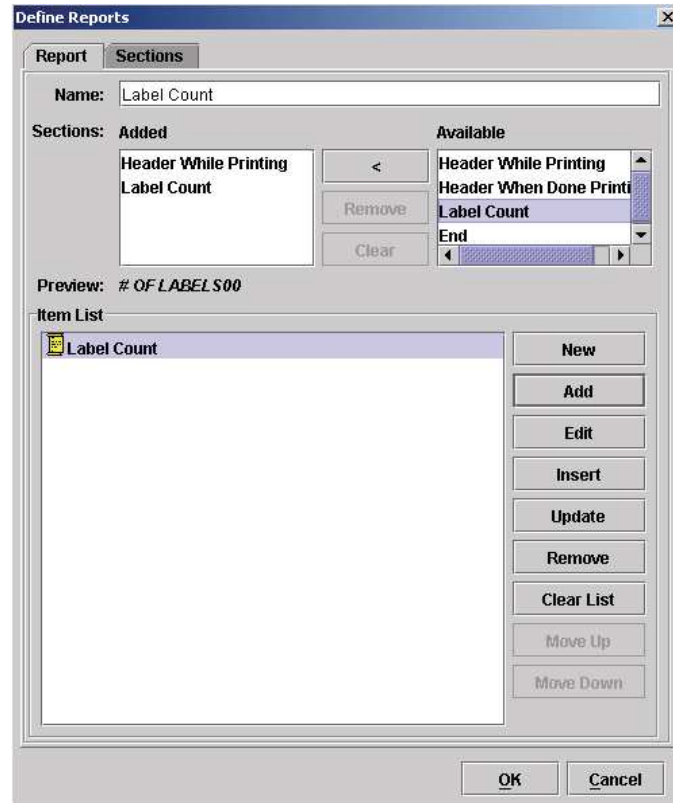

Figure 214 Adding Available Sections
7. Click the **Add** button. Label Count is added to the item list (Figure 214).